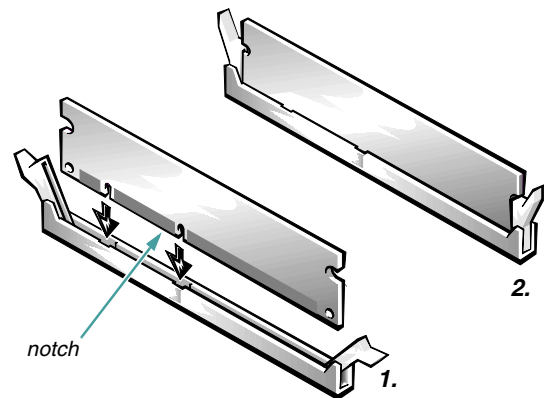

Figure 8-4. Installing a DIMM
1. **Press the ejectors on the DIMM socket down and outward as shown in Figure 8-4 to allow the DIMM to be inserted in the socket.**
The card-edge connector on the DIMM is keyed using two notches so that the DIMM can be installed in the socket in only one way (see Figure 8-4).